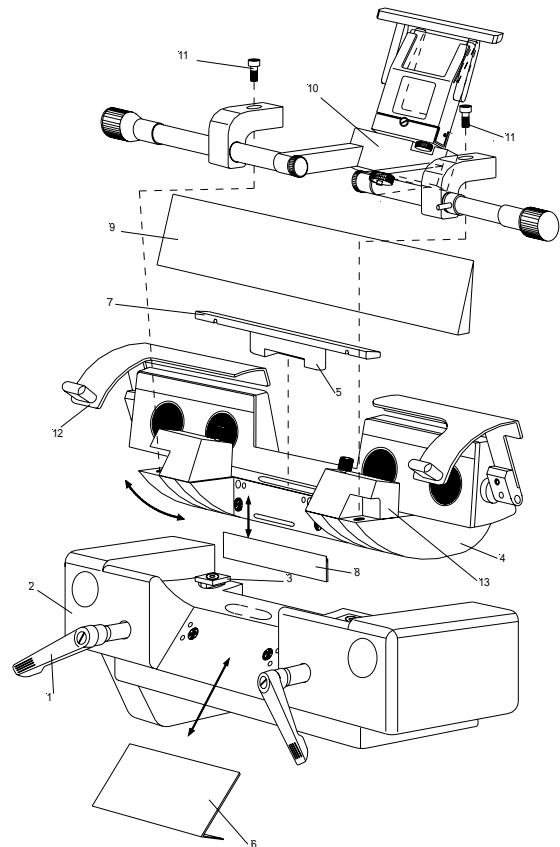

Fig. 63a
- Loosen the fastening screws (fig. 63a.11) of the anti-roll guide (fig. 63a.10) from above.
- Remove the anti-roll guide (fig. 63a.10).
- Pull off the stands (fig. 63a.13) in an upward direction.
- Remove the wedge rail (fig. 63a.7).
Carefully keep the two stands (fig. 63a.13) as well as the wedge rail (fig. 63a.7). These parts will be needed again when modifying from disposable blade holder SE to standard knife carrier SM.